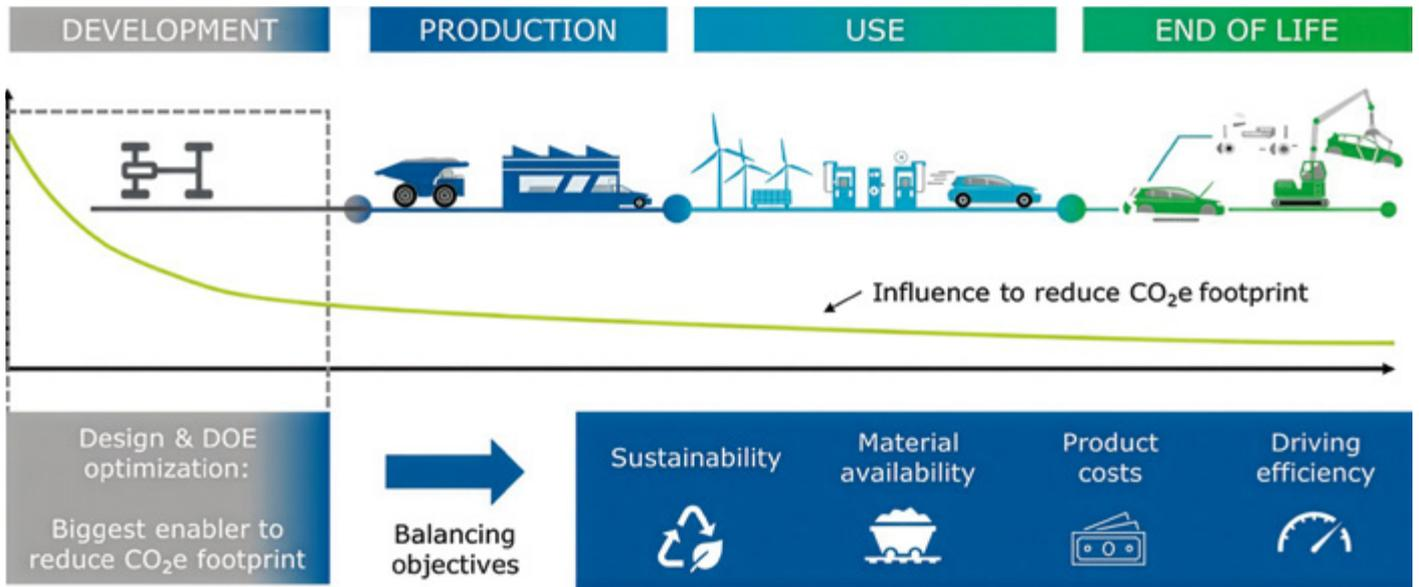

Figure 2: Sustainability in the Drivetrain - Impact of Development Phase on Lifecycle GHG Emissions
FIGURE 2 shows an ideal-typical pattern for the product life cycle of a Battery Electric Vehicle (BEV) assuming a European 2023 electricity mix in the production and in-use phase (1). It is shown that the CO2e influenceability decreases significantly during the later phases described. Although the majority of CO2e emissions occur during the production phase and typically need to be offset during the in-use phase when compared to other powertrain technologies, the development phase has the most significant impact on the CO2e footprint.